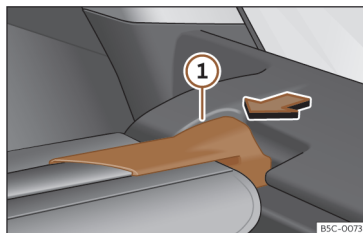

Fig. 184 In the luggage compartment: remove the shelf.
- Press the rear shelf support >>> **Fig. 184** ① in the direction of the arrow.
- Engage the support of the rear shelf >>> Fig. 184 ① into the housing on the other side.